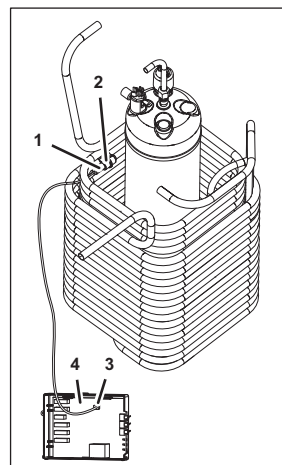

Figure 47
1. Disconnect the plug (Figure 47/3) of the water bath temperature probe (Figure 47/1) from control system 1(Figure 47/4).
2. Remove the water bath temperature probe (Figure 47/1) from the mount (Figure 47/2).
3. Carefully pull the water bath temperature probe (Figure 47/1) out of the unit, along with the electrical cable.
4. Install the new water bath temperature probe (Figure 47/1) within the unit, along with the electrical cable.
5. Slide the water bath temperature probe (Figure 47/1) into the mount (Figure 47/2).
6. Connect the plug (Figure 47/3) of the water bath temperature probe (Figure 47/1) to control system 1(Figure 47/4).